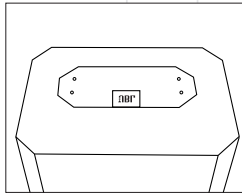

Figure 2
3. Place the PS1400 subwoofer in the desired location, as described in the Speaker Placement section, and remove the 4 Allen head bolts from the mounting plate on top of the subwoofer. Put these bolts in a safe place for future use, should you decide to change the placement of the modules, or if you need to repack the PS1400 for moving or other purposes. Do not remove the mounting plate from the PS1400 subwoofer. (Figure 2)